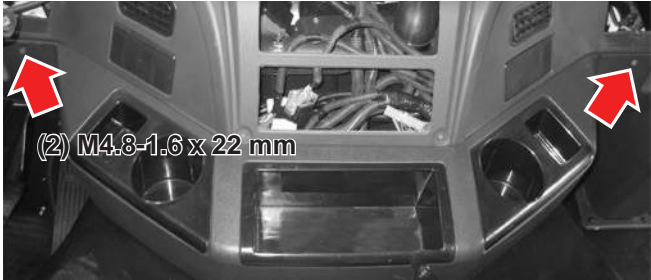

Figure 27-1
1. Install the five screws securing the lower instrument panel skirt (A5700044-001) (see Figure 27-1).